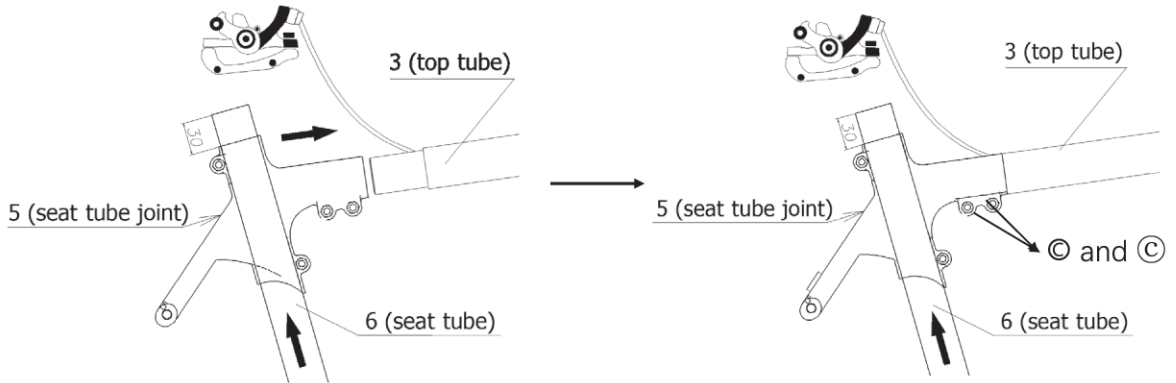

Figure 11.
a. Insert Part 3 into Part 5, as shown in Figure 11.